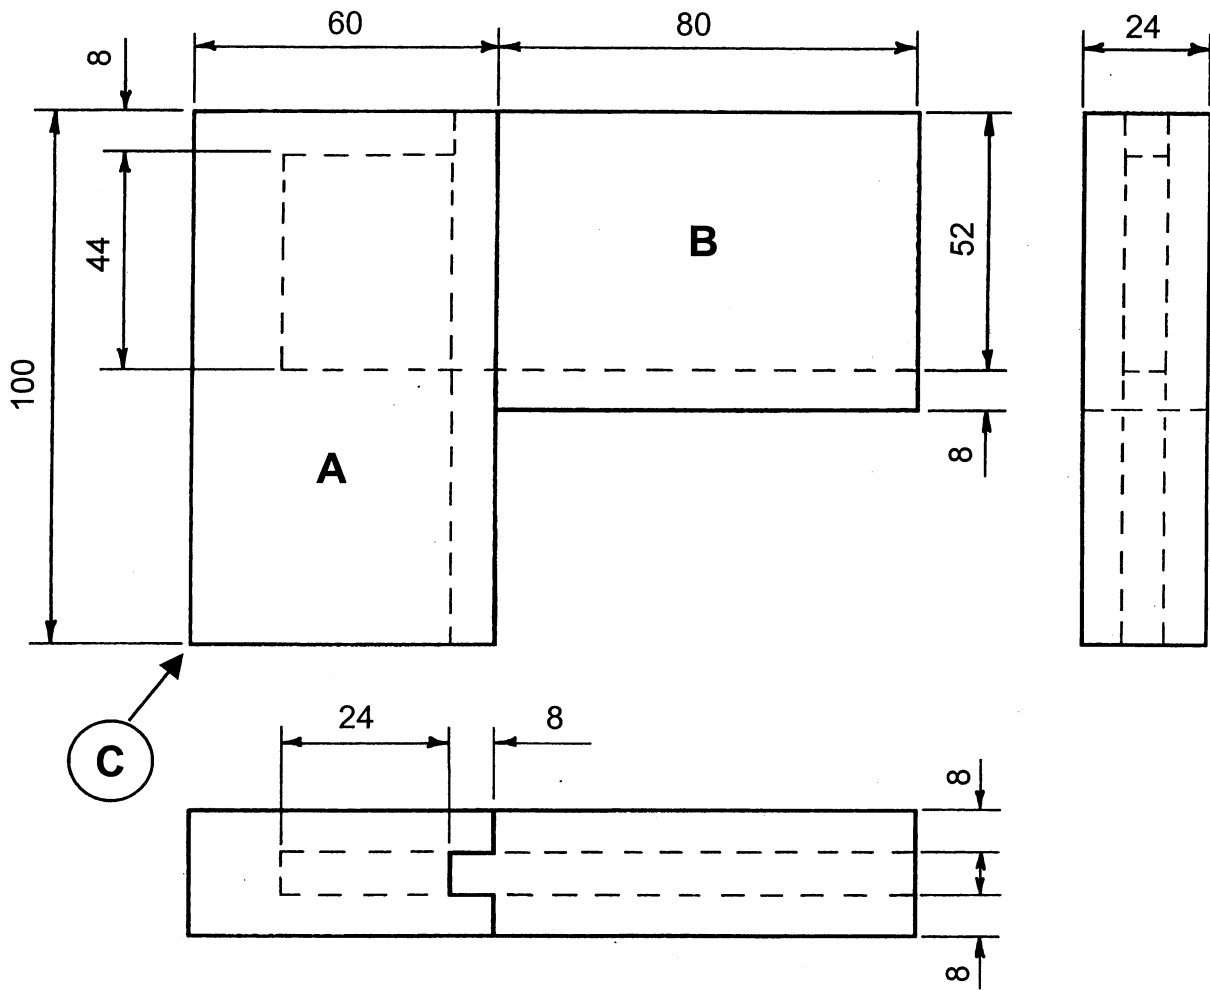

FIG. 3	JOINT VOEG
**Figure 3** on page 6 of this examination paper shows the front view, top view and left view of a **haunched mortice and tenon joint with groove** in first-angle orthographic projection.